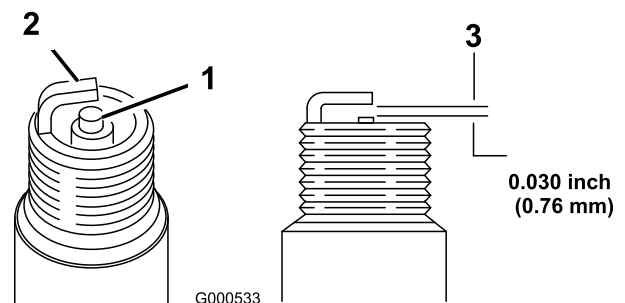

Figure 27
11. Set the gap on the plug to 0.76 mm (0.030 inch) as shown in Figure 27.